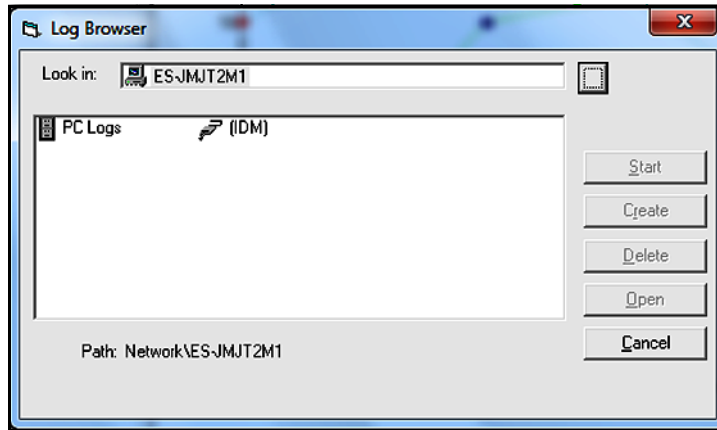

Figure 81: Log Type Selection
3. Double-click *computer name* to advance to the dialog box shown in *Figure 81* below.